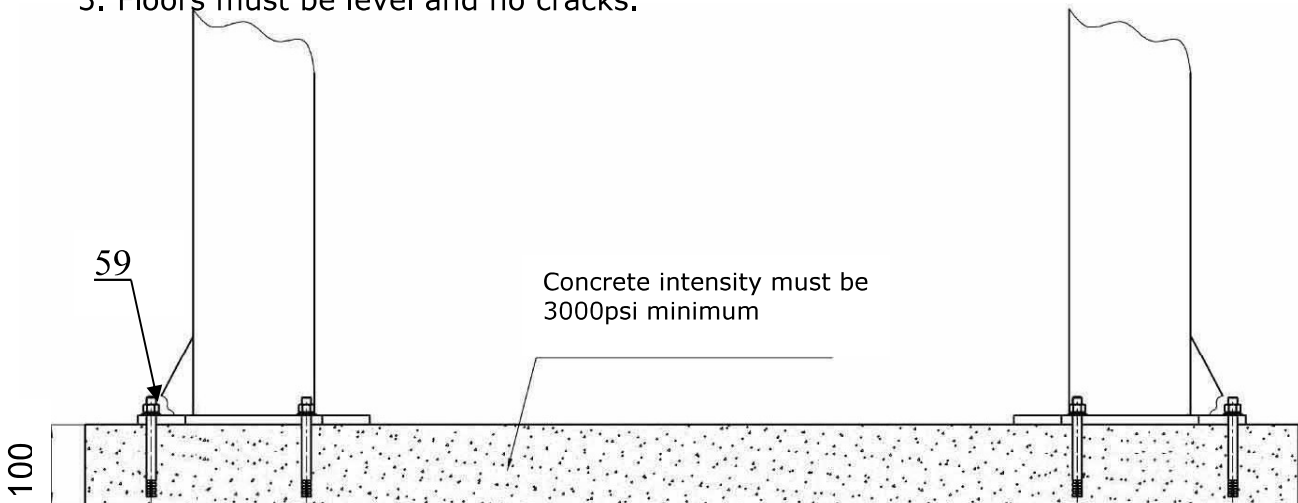

Fig. 7
D.SPECIFICATIONS OF CONCRETE (See Fig. 7)